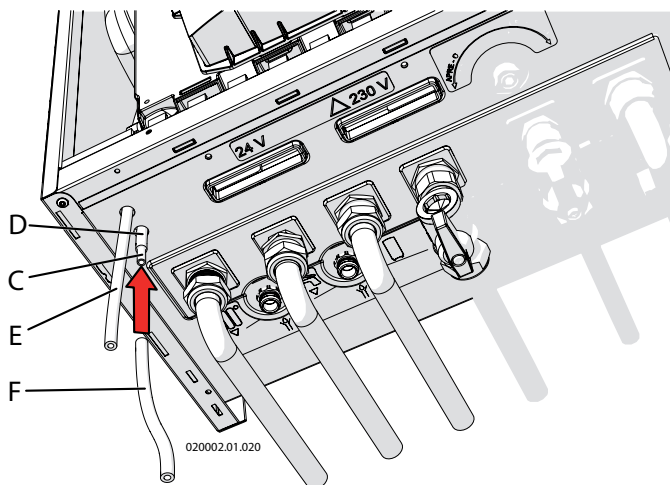

Figure 6.11 - Controlling combustion air pressure
- 9.- insert pipe "E" into the hose as indicated in figure 6.11;